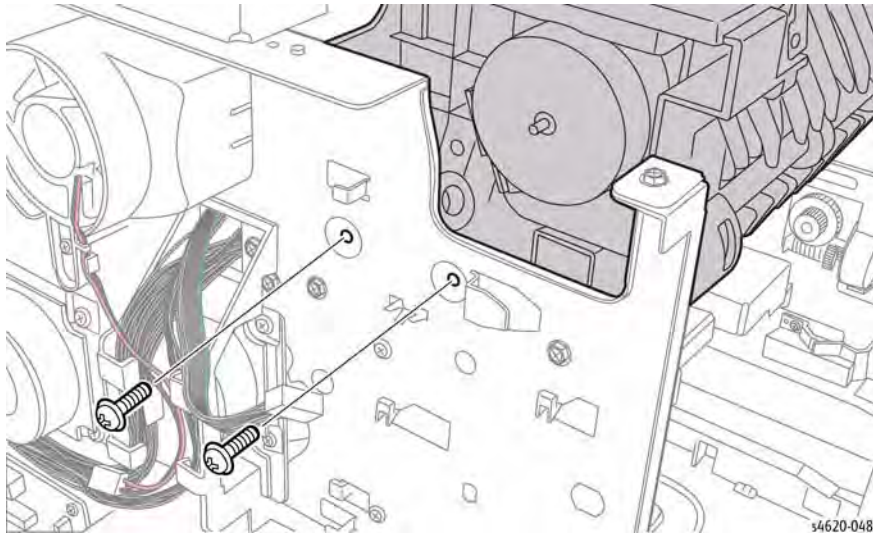

Figure 6 Remove the right side Exit Assembly screws
15. Remove 2 screws (metal) from the right side that secure the Exit Assembly, Figure 6.